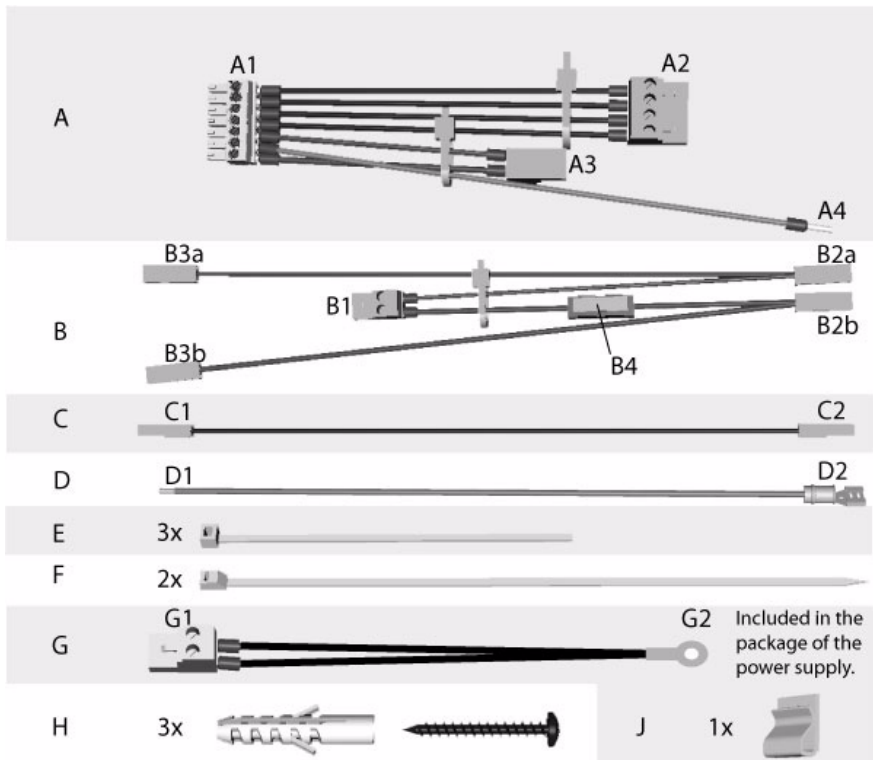

Figure 2 Accessories kit content
2. Put the batteries on the bottom of the housing and secure them with the cable ties (**F** - *Figure 2*).
3. Stick the bracket **J** (*Figure 2*) on the back of the housing in such a way that later on not used connectors of the cable **B** can fixed with it.